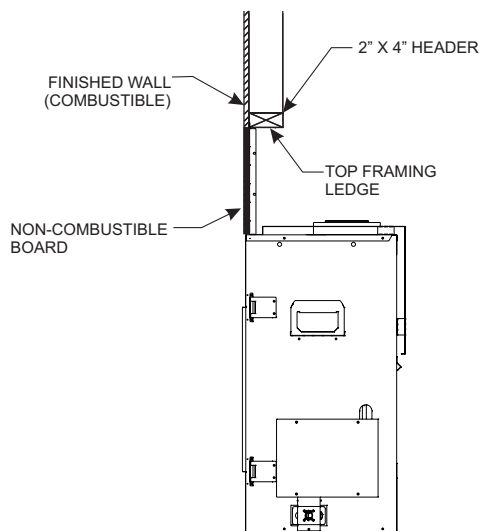

Figure 31
- Figure 31 shows both finishing options.